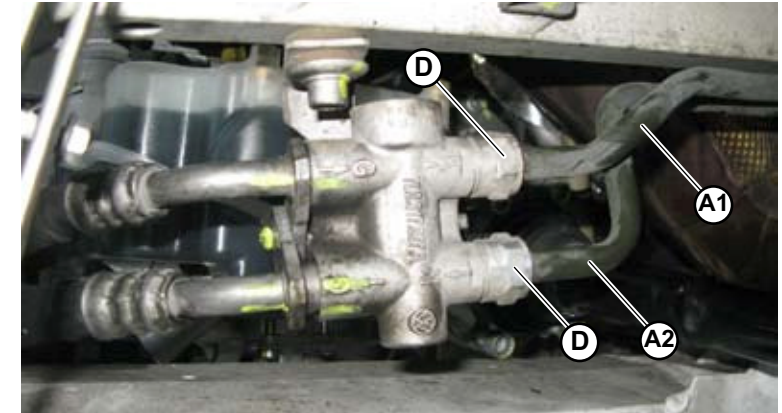

Fig.6
3. Unscrew the nuts (**D-Fig.6**) and disconnect the front **A1** and **A2** pipes from the temperature regulator.